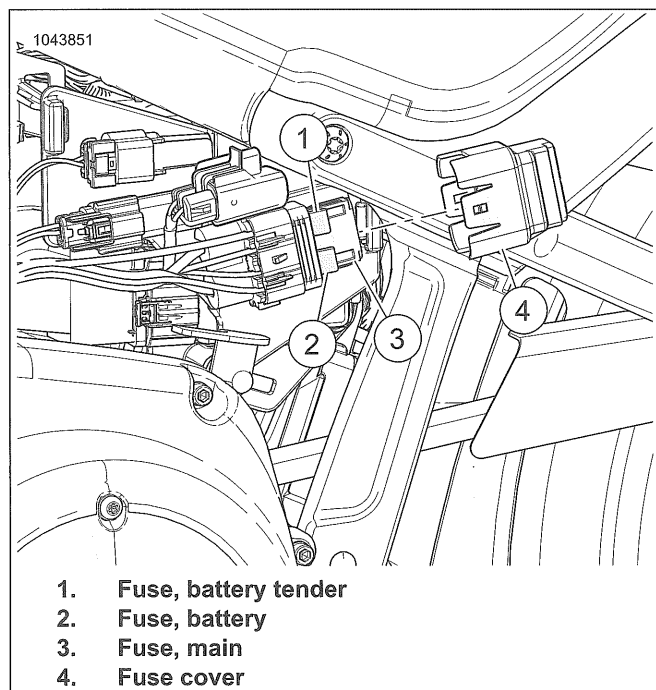
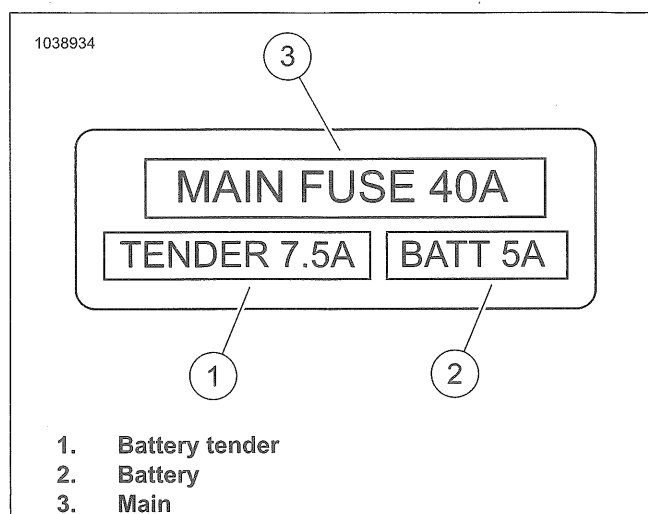

Figure 7-1. Fuses
Figure 7-2. Fuse Block
2. See Figure 7-1. Remove fuse cover (4).
1. See Figure 7-1 and Figure 7-2. Install fuse (1, 2 or 3).
2. Install fuse cover (4).